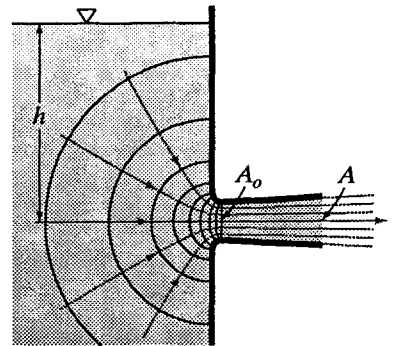

Figure X11.6.5
11.6.8 Given that the diverging tube shown in Fig. X11.6.5 has $A = 1.75A_o$. Find the throat velocity and pressure head when $h = 3$ m of water. Neglect all friction losses.